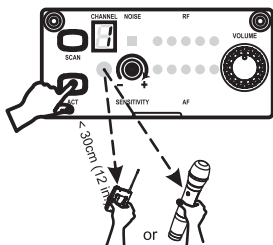

Fig. 4
2. Turn on the transmitter. Align the red color IR sync windows of both the transmitter and receiver at a distance of <math><30\text{ cm}</math> (12 inch). Fig. 4